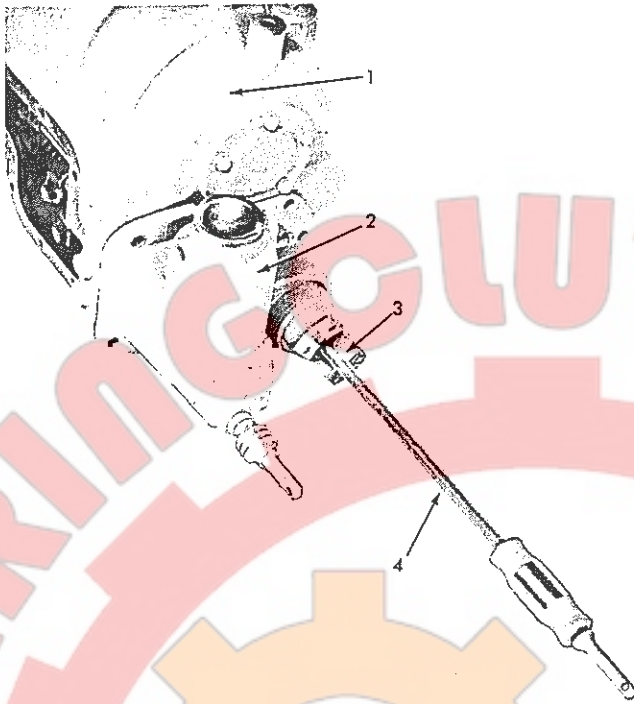

Fig. 9 Removing Shift Lever Housing
5. Remove capscrews attaching shift lever housing to transmission case. Use a slide hammer puller, Fig. 9; pull shift lever housing (with input shaft)